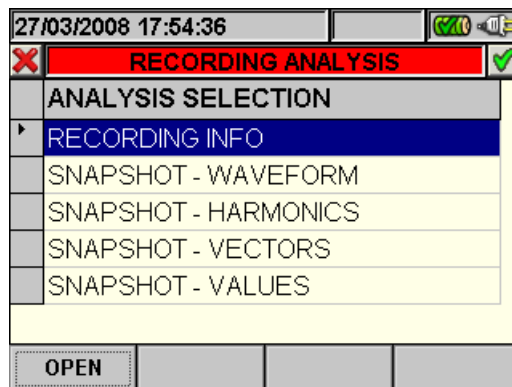

Fig. 113: Recording analysis (Istant-type data)
2. Press the **ESC** key (or the smart icon on the display) to exit the function and go back to the "Recording analysis" page (Fig. 113).
- The **ESC** key (or the smart icon on the display) to exit the function and go back to the "Recording analysis" page (Fig. 113).
- The **ESC** key (or the smart icon  on the display) to exit the function and go back to the "Recording analysis" page (Fig. 113).
- The **ESC** key (or the smart icon on the display) to exit the function and go back to the “Recording analysis” page (Fig. 113).